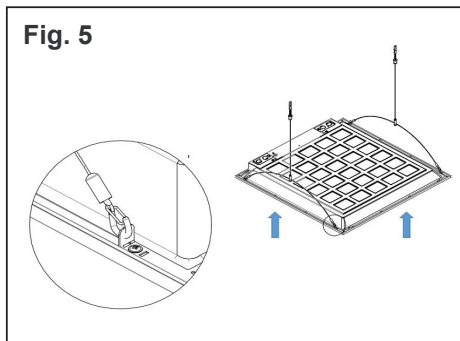

Fig. 5
5. Attach the clips to the panel (Fig. 5).